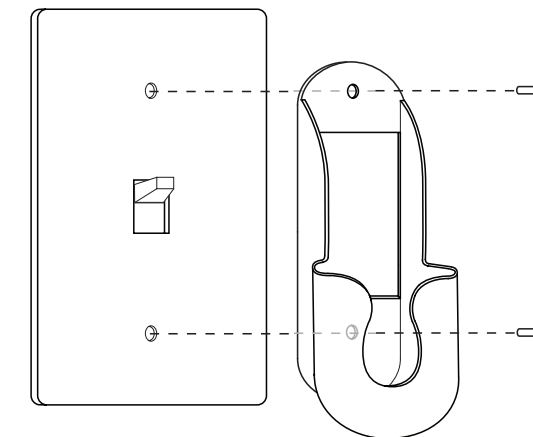

Figure 14 - Installing Transmitter Holder
- 4) Mount the Transmitter Holder over the Illumi-Heat's wall switch using the the existing wall plate screws. See Figure 14.